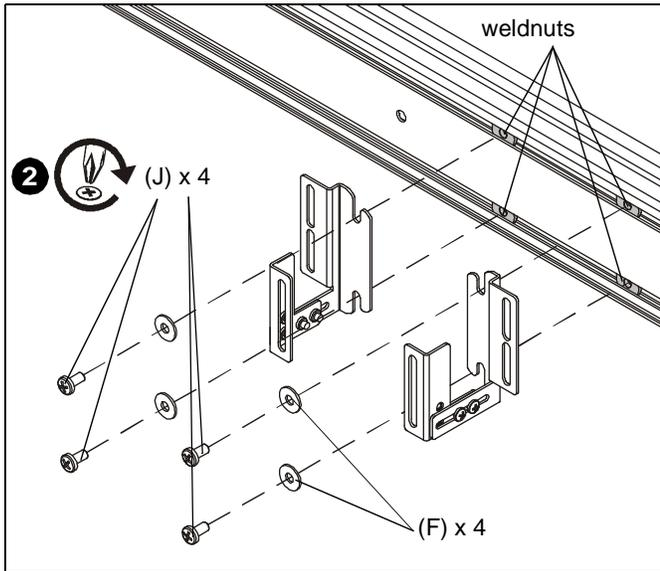

Figure 4
2. Attach configured brackets to weldnuts using four 1/4-20 x 1/2" Phillips pan head screw (J) and four 1/4" flat washers (F) into installed weldnuts (E). (See Figure 4)